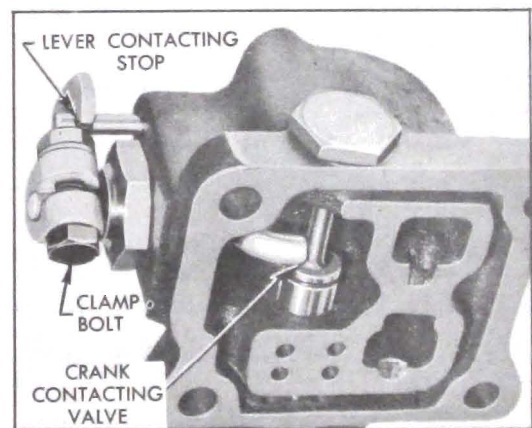

Figure 5-71—Valve Operating Lever Adjustment
12. Adjust operating lever on crank so that lever contacts its stop and the crank contacts the valve without depressing the spring, then tighten the clamp bolt. See figure 5-71.